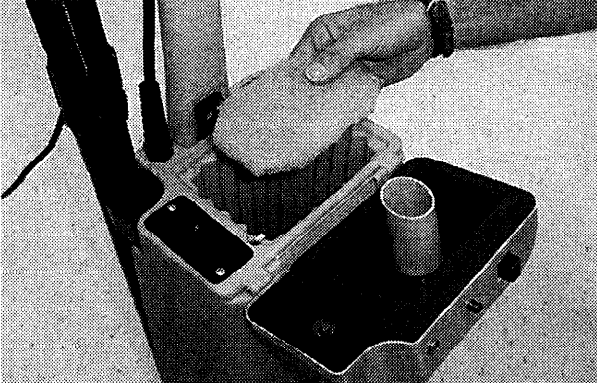

FIG. 13
1. Remove secondary filter and tap or blow off dust build-up, filter is located below filter bag. Do not clean with water. Replace filter if needed (Figure 13).